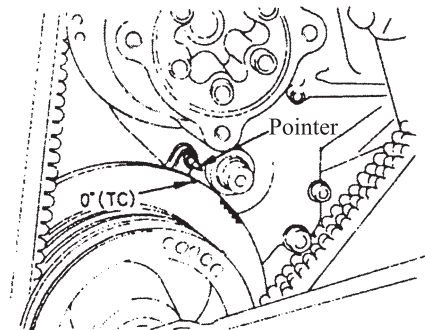

Fig. 1-11
(1) Turn the crankshaft clockwise and make the “TC” mark of belt wheel shock absorber coincide with the needle.
(2) Open the manhole cover and make sure the mark of the bottom plate and position of the needle. If the mark of the bottom plate coincides with the needle position, it indicates the upper dead point on the compression stroke of the first cylinder, adjust the clearances of the air gate with “ Δ ” and “ \times ” as well. The clearance valve of the air gate: 0.4mm (When it is under cooling state, the air suction and exhaustion are of the same valve.) For details, please refer to Figs 1-11, 1-12, 1-13.